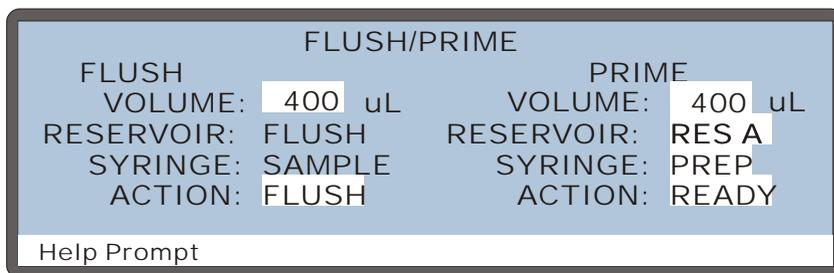

Figure 3-24. Initiating a Manual Flush Cycle
3. Move the cursor to the **ACTION** field and select **FLUSH** (see Figure 3-24).